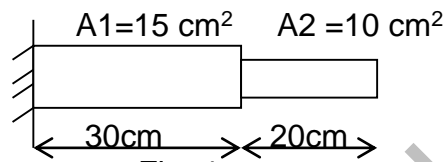

Fig. 4
- 14 Determine the eigen value and eigen vectors for the stepped bar shown in figure 4. $E = 200 \text{ Gpa}$, $\rho = 7650 \text{ kg/m}^3$.